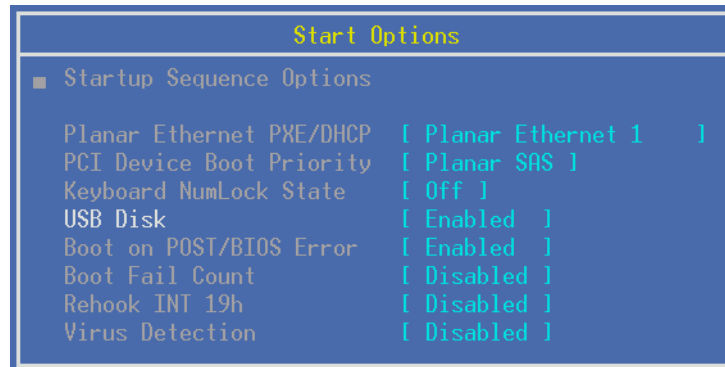

Figure 5-11 Example of x3850 M2 BIOS Start Options with USB Disk enabled
2. Go to **Start Options** → **USB Disk** and set it to **Enabled**, as shown in Figure 5-11.